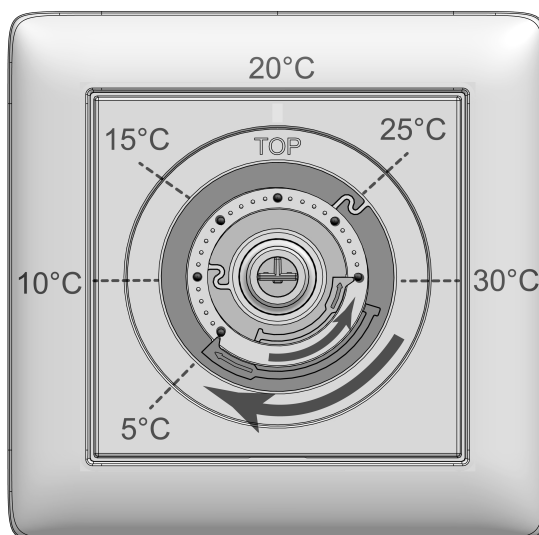

Figure 4: Adjustment rings for temperature limit
In the centre position, the device regulates to approx. 20 °C setpoint temperature. The lowest setpoint temperature is approx. 5 °C and the highest setpoint temperature is approx. 30 °C (Figure 4).
- Pull the control knob (4) off the central plate (3) so that the adjustment rings (6) are visible (Figure 4). The temperature values shown in the picture are for orientation purposes.